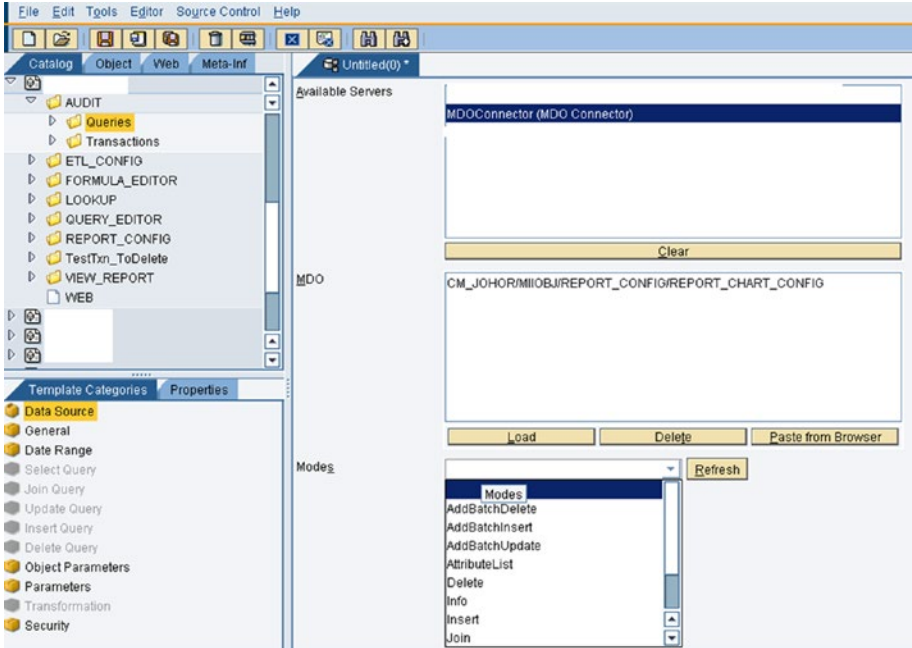

Figure 6-17. Selecting the MDO Query mode
- Now select the mode from the Modes list in the Data Server screen, as shown in Figure 6-17.